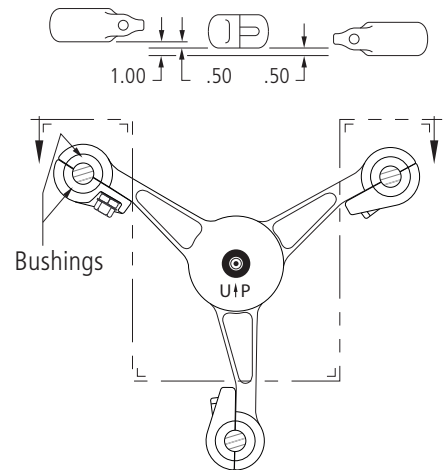

Figure 2
6. Position the spacer damper assembly perpendicular to the conductor centerline within tolerances shown in Figure 2.
- Slide the speed grip over the spacers such that they are fully surrounded by the speed-grip bushings (see Fig. 2), while retaining the perpendicular stance against the conductors.